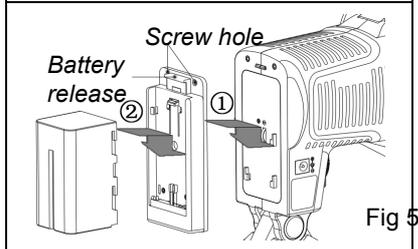

Fig 5
- ② Align the S-7004 series battery plate to the DV mount slot to same side, and press tightly in. Then slide the S-7004 downward to snap together. See Fig 5-①
- ③ Fix the DV mount with two screws.
- ④ Make sure the light is switched off (turn the switch to "O"). Mount a fully charged battery to the S-7004 mount. Fig 5-②